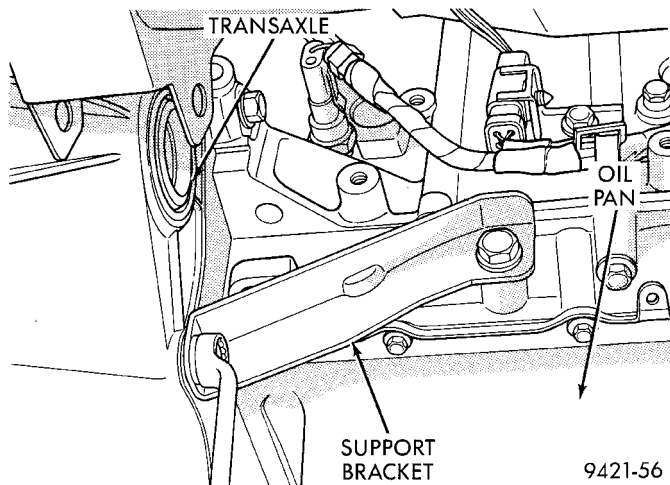

Fig. 28 Bracket Removal
- (18) Remove transaxle to rear lateral bending strut from engine and transaxle (Fig. 28).